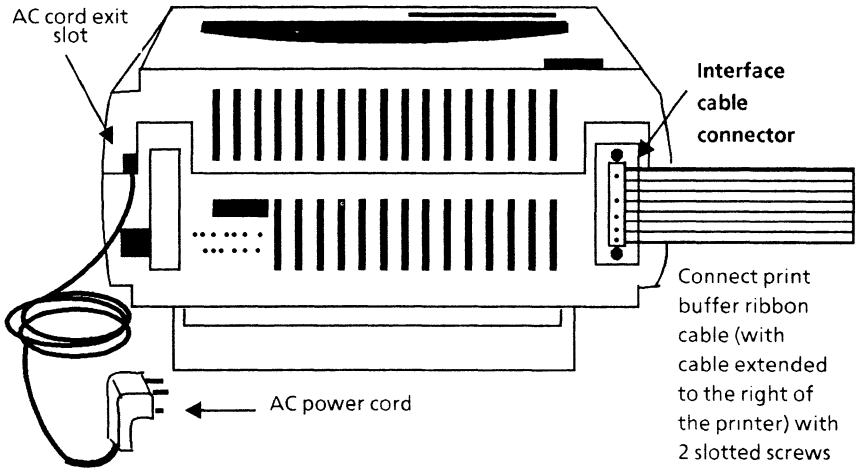

Figure 4-3 Local draft printer (rear view)
1. Connect (with the thumbscrews supplied with the printer) the end of the ribbon cable (attached to the print buffer) to the interface connector located at the left rear of the printer (Figure 4-3).